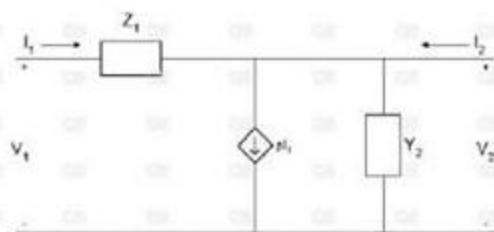

Figure 3
- b) A simplified equivalent circuit of a bipolar junction transistor is shown in Figure 3 below find its h-parameters. [8+7]